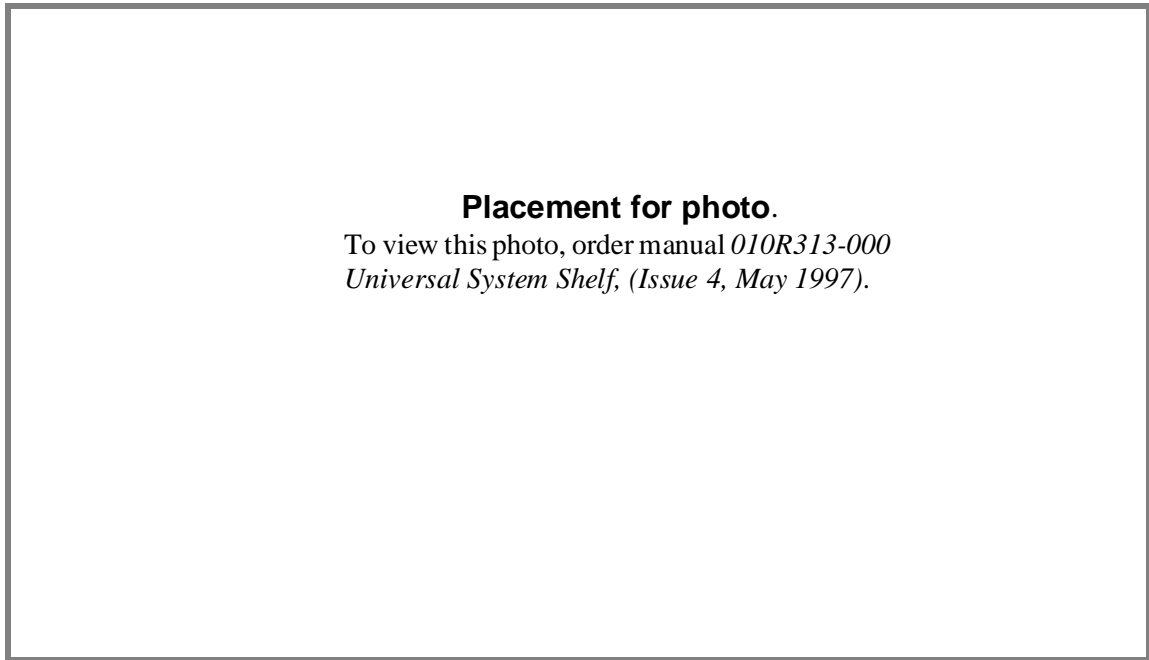

Figure 2-2 Front View of 117 V (AC USS-1) Shelf Showing Typical Slot Identification
3. Apply the slot I.D. label supplied with the backplane to the front of the shelf, along the bottom card frame outer edge so that the black triangles line up with the card slots associated with that product as shown in *Figure 2-2*.